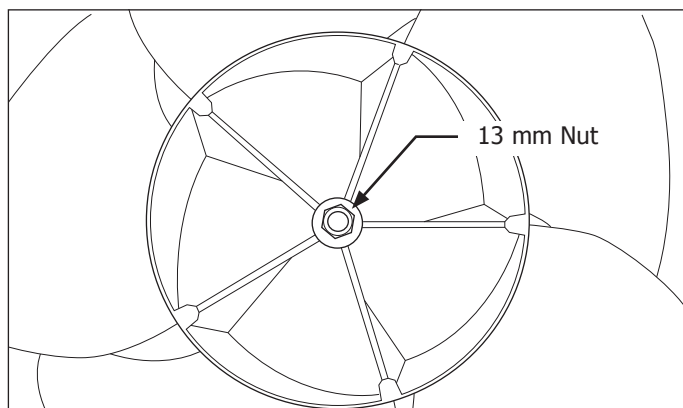

Figure 4-68.
4. Use a 13 mm socket or wrench and remove the left hand thread nut securing the condenser fan blade to the motor shaft. (See Figure 4-68)